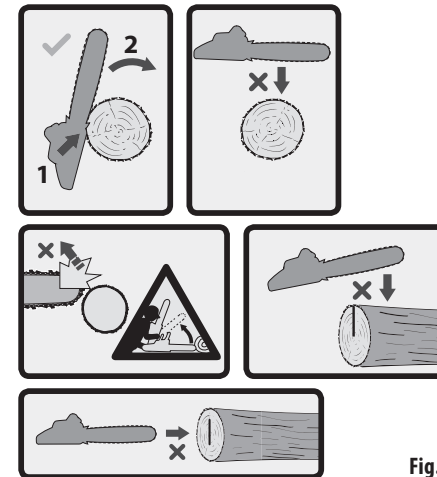

Fig. 9
4. Place the chainsaw with the bottom part of the bumper spikes (fig. 8 and fig. 9) pushing against the log and gently push on the front handle to turn it to the opposite side of the log, so that the guide bar is pointing downwards. By moving the chainsaw backwards, move the bumper spikes lower on the log and repeat the whole procedure until you have cut through the log (fig. 8 and fig. 9).